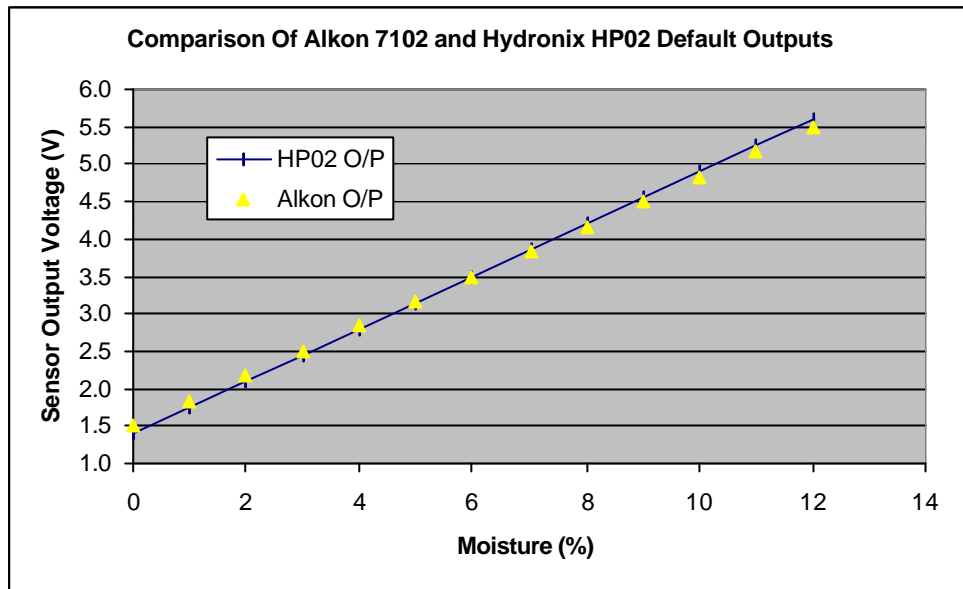

Figure 1 : Comparison of Default Alkon Calibration Against Default Hydronix Calibration
- Using the default calibrations of the two sensors results in maximum discrepancy of 0.3% over the range 0% moisture to 12 % moisture. (See Fig 1)
Since the Alkon offset value is arbitrary (it depends upon the setting of the zero pot on the display front panel) Fig1. assumes that the two curves are identical at 6% moisture. With this assumption the difference between the two default calibrations varies from -0.3% at 0% moisture to $+0.3\%$ at 12 % moisture. If required, this discrepancy can be further reduced by minor adjustments to the HP02 calibration constants as described in section III below.